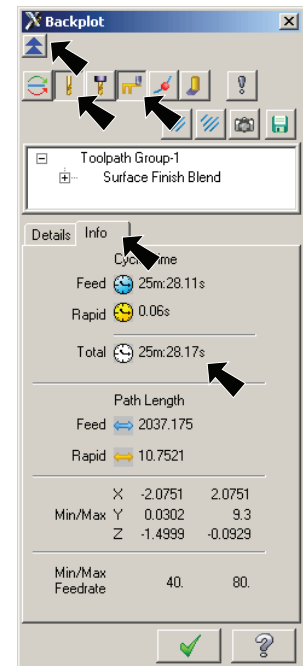

Fig. 37
Step 3. Click **Expand**  in the top corner of Backplot dialog box, Fig. 37.
Step 4. Turn on (button depressed) **Display tool**  and **Display rapid moves** , Fig. 37.
Step 6. Click the **Info** tab in the middle of the Backplot dialog box, Fig. 37. Note the **Total time** to run program (**25 minutes**).